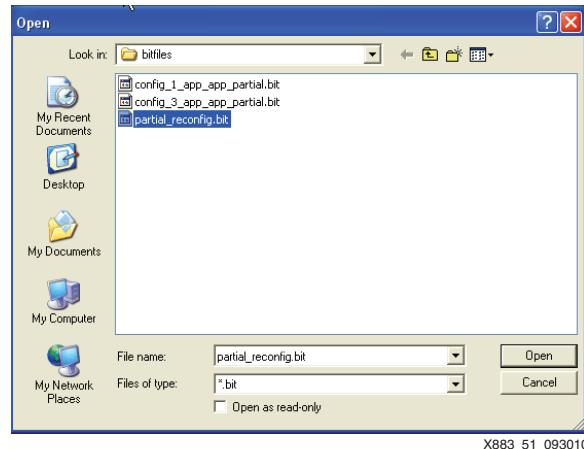

Figure 51: Select User Application Partial Bitfile
25. Click the **Reconfigure FPGA** button. The window shown in Figure 51 appears.